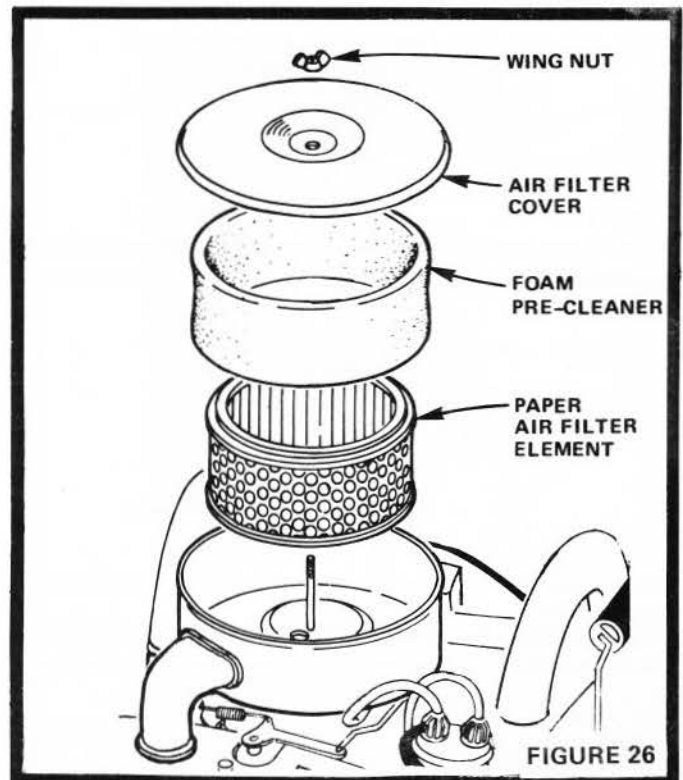

FIGURE 26
- Unscrew Wing Nut (Fig. 26) to remove Air Filter Cover Paper Air Filter Element and Foam Pre-Cleaner.